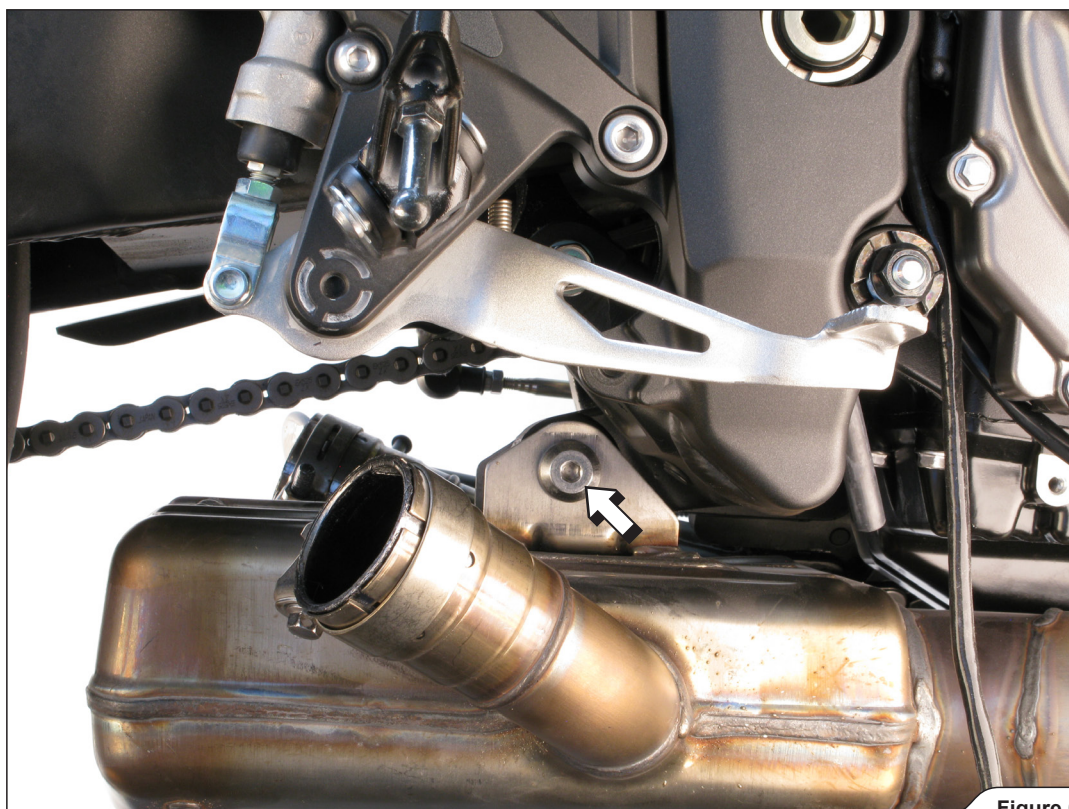

Figure 6
7. Unscrew the marked bolt and carefully remove the headers off the motorcycle (**Figure 6**).